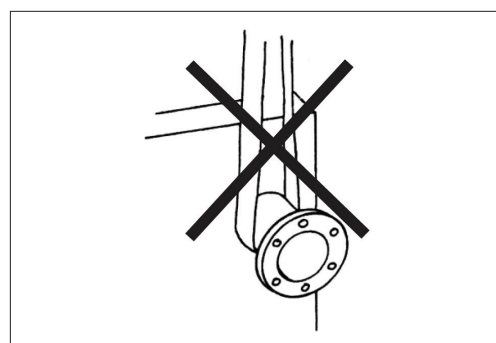

Fig. 9. Lifting points not allowed
**Never lift the heat exchanger using any other method than described above. Never use the connections, studs or any intermediate plates (if fitted) for lifting (fig. 9).**